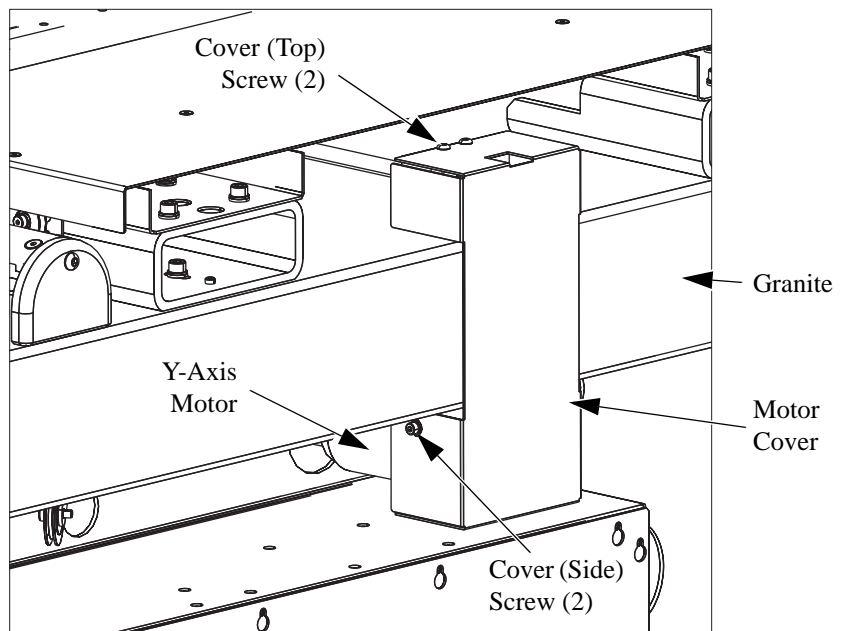

Figure 9-17 Removing the Y-Axis Motor Cover
2. Use a 3/32-inch Allen wrench to loosen the two screws on top of the Y-axis motor cover (see Figure 9-17). Then use a 7/64-inch Allen wrench to remove the two side screws.